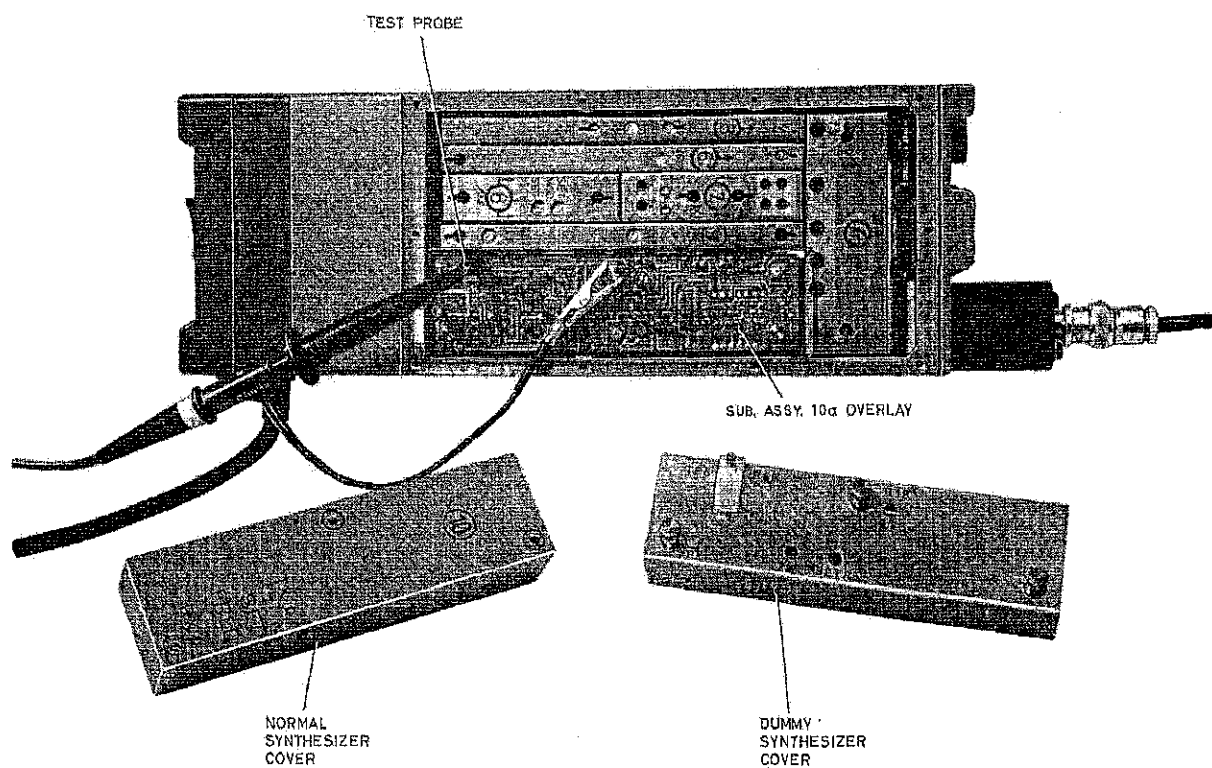

Fig 6 - Fault location : synthesizer (assembly 10)
Ⓢ FAULT FINDING WITHIN ASSEMBLY 10 (SYNTHESIZER) (Fig 6, 2003 and 2005)
111. Fault finding is carried out with the motherboard, with all assemblies, fitted into the motherboard test jig (item 1, Table 2); refer to para 33 and Fig 6.